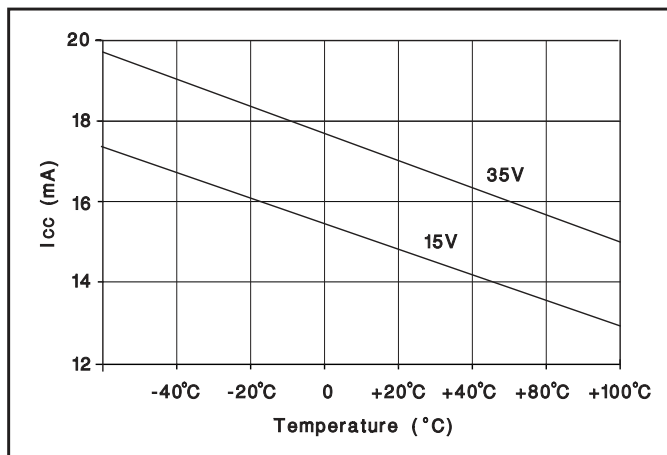

Figure 1.  $I_{CC}$  vs. temperature.
**VCC:** The input voltage to the chip. The chip is operational between 7.5V and 40V and should be bypassed with a  $1\mu F$  capacitor. A typical  $I_{CC}$  vs. temperature is shown in Figure 1.